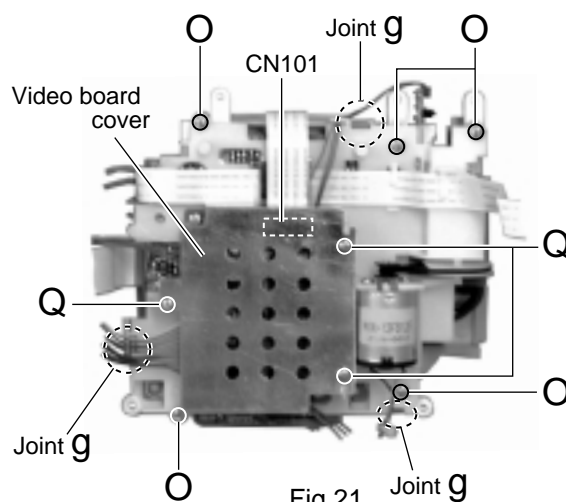

Fig.21
■ Removing the video board (See Fig.21 and 24)